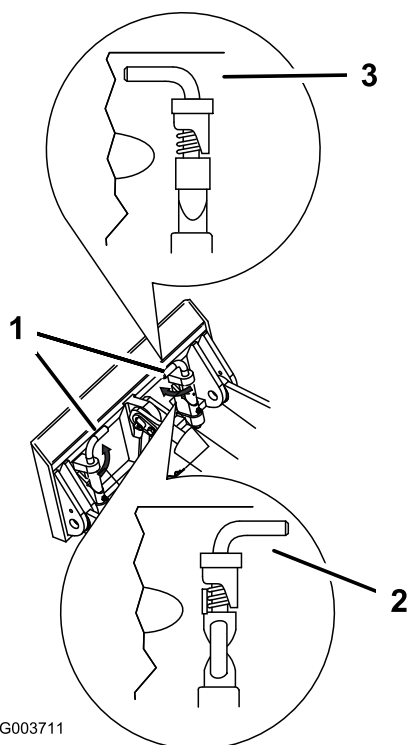

Figure 21
- Engage the quick-attach pins, ensuring that they are fully seated in the mount plate (Figure 21).